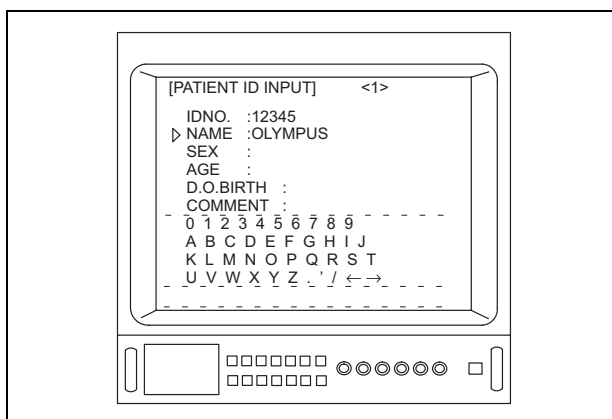

Figure 5.48
11. Depress the menu switch “” or the “F1” key on the keyboard quickly to finish entering the patient’s name (see Figure 5.48).